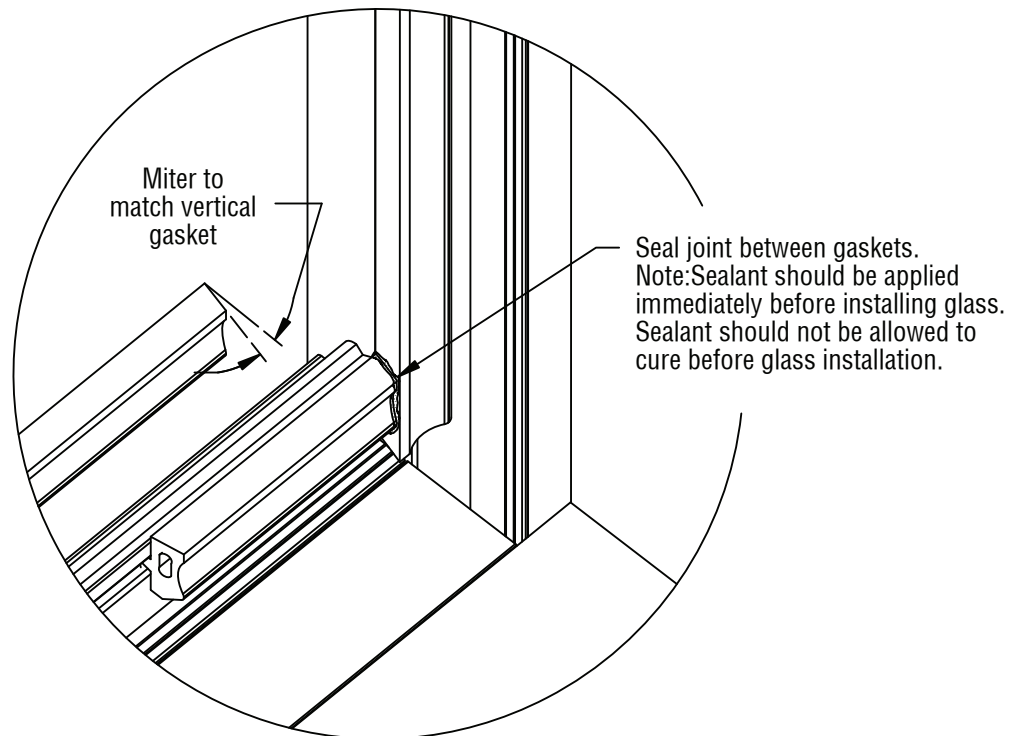

Figure 17
- 3.18 Glazing captured system: Install exterior gaskets running the vertical gasket through and butting horizontal gaskets between. Joint between vertical and horizontal gaskets must be sealed. Horizontal gaskets should be mitered per **FIGURE 17, page 20.** Crowd gasket using formula of 1/4" per foot of aluminum extrusion. Note: Gaskets will be installed at verticals and sill of opening when using pressure plate horizontal at head prior to installing glass.